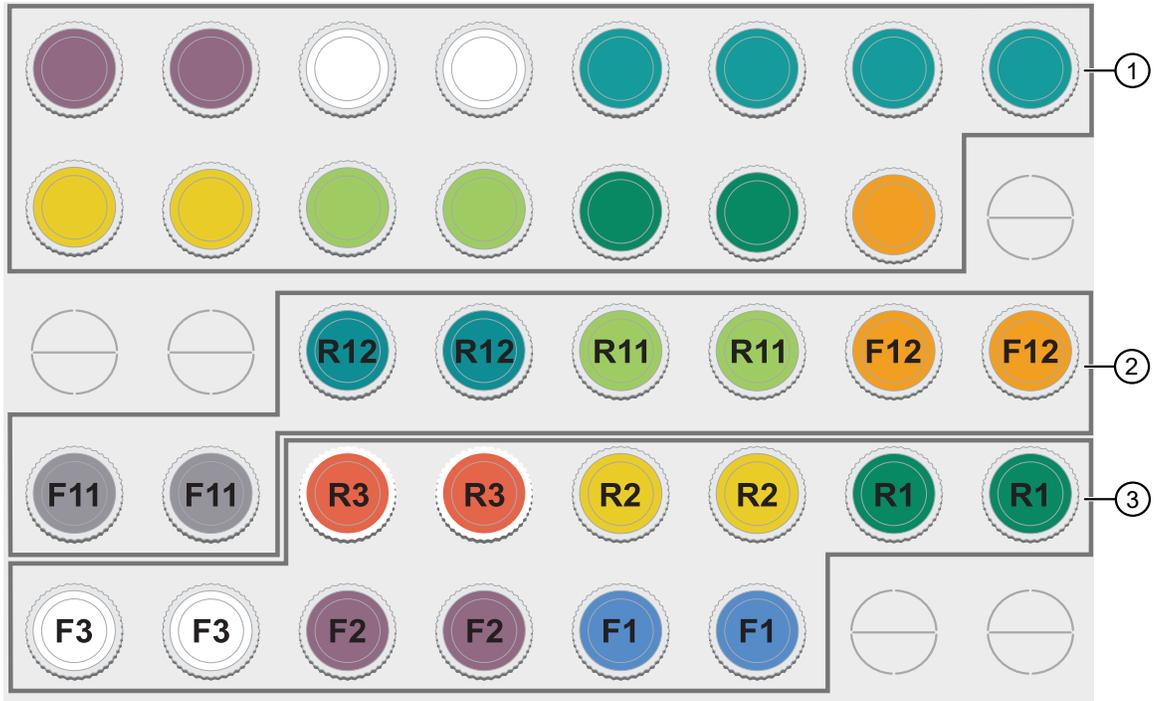

Figure 1 Applied Biosystems™ HIV-1 Genotyping Kit with Integrase (Cat. No. A55120) image of the contents
**Note:** For image of kit contents refer to Figure 1.